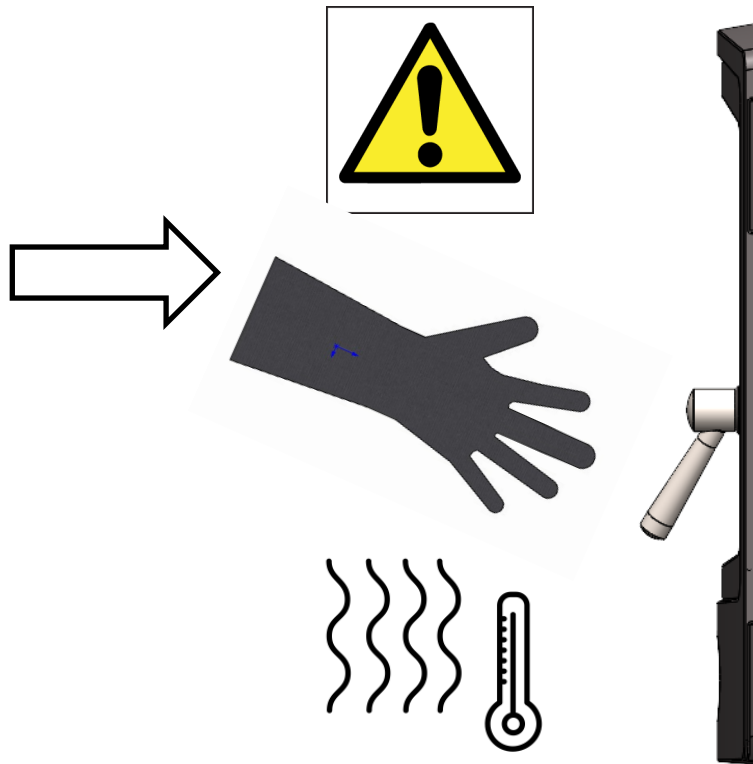

Fig. 29.
- Care must be taken when opening and closing the fire door as any surrounding surfaces will be VERY HOT. See Fig. 29.